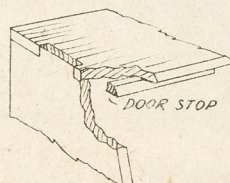

Fig. 5—Door stop rail
If a jointed fixing is desired between the uprights and the top (C), open mortises can be cut, as the enlarged detail Fig. 5 shows. This makes a very stiff and firm fixing, but a particularly clean-cut joint must be aimed at if neatness of appearance is a consideration.
The lower one must be planed to a chamfer to fit the floor (A), the top surface running at a right angle to the sloping front so the door will rest between the sides, and at the same time open accurately along the top edge of fillet (H). Fillet (I) is really intended for the door to rest against, and so must be dropped back the thickness of the door from the front edges of the top (C), and the sides (B) (see enlarged detail Fig. 5).